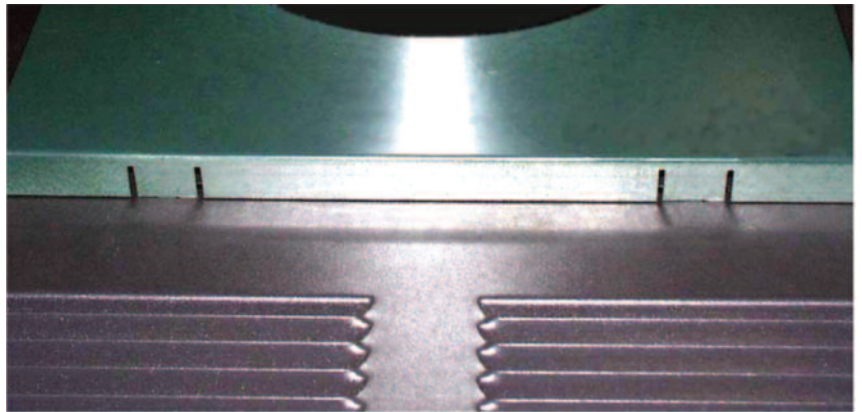

Fig. 9
10. Lower the top panel cover flush to the top and release the tabs. They will spring into place as shown in **Fig. 9**.